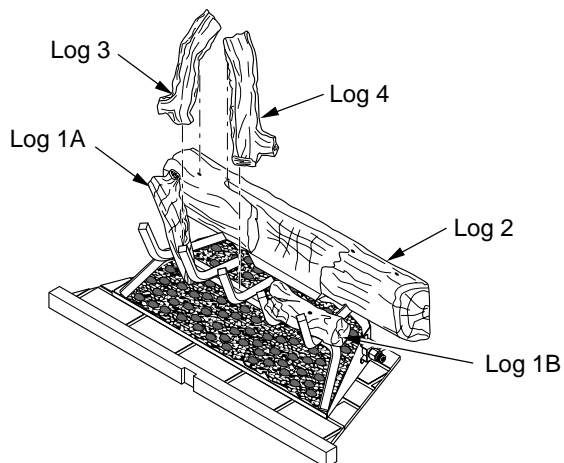
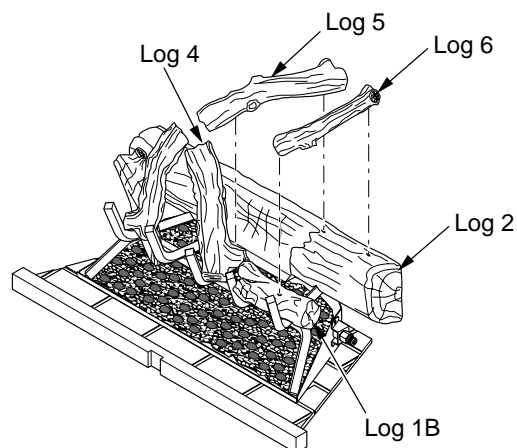
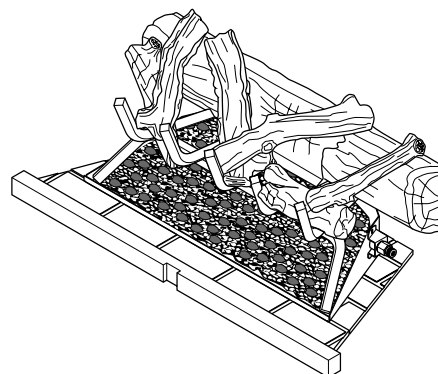

Figure 28 - Installing Logs 3 and 4
Figure 29 - Installing Logs 5 and 6
Figure 30 - Logs Installed for M42E/VM42E Models
3. Place log 3 across log 1A and log 2, aligning peg on log 3 with top left hole on log 2 (see Figure 28).
4. Align peg on log 4 with inside left hole on log 2 (see Figure 28). Log 4 will rest on grate fingers as shown in Figure 29.
5. Align peg on log 5 with the inside right hole on log 2 (see Figure 29). Rest the lower part of log 5 on the log 4 and on grate as shown in Figure 30.
6. Align peg at the top of log 6 with outside right hole on log 2. Fit the peg at the lower part of log 6 into the hole on top of log 1B (see Figures 29 and 30).